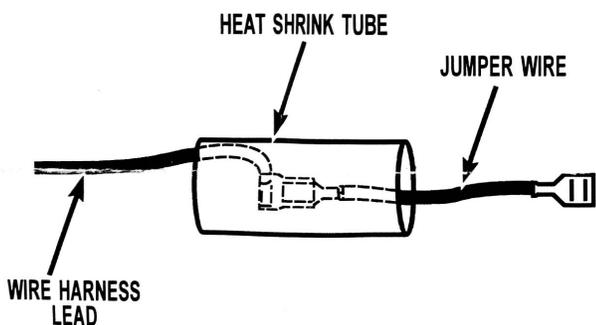

FIGURE 1
4. Use jumper wires included if cooktop wire harness leads are not long enough to reach terminals on the new switch. Use heat shrink tubing provided to insulate terminals where jumper is connected to the range wiring. Place heat shrink tube so that it completely covers the terminals and shrink in place using a heat gun. See Figure 1.